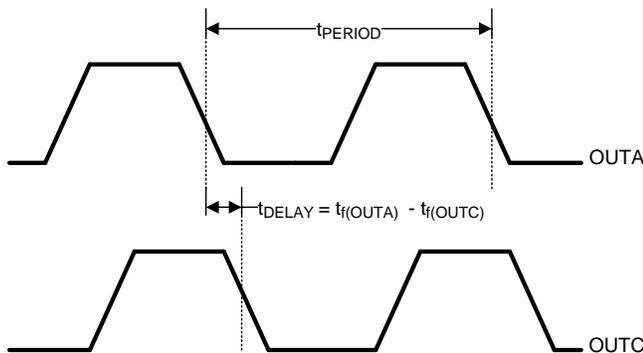

Figure 1. Same Applies to OUTB and OUTD
(2) Ensured by design. Not production tested.
(3) Output delay is measured between OUTA and OUTB, or OUTC and OUTD. Output delay is defined as shown below where: $t_{f(OUTA)}$ = falling edge of OUTA signal, $t_{r(OUTB)}$ = rising edge of OUTB signal (see Figure 1 and Figure 2).
(6) Output delay is measured between OUTA and OUTB, or OUTC and OUTD. Output delay is defined as shown below where: t_{f(OUTA)} = falling edge of OUTA signal, t_{r(OUTB)} = rising edge of OUTB signal (see Figure 1 and Figure 2).